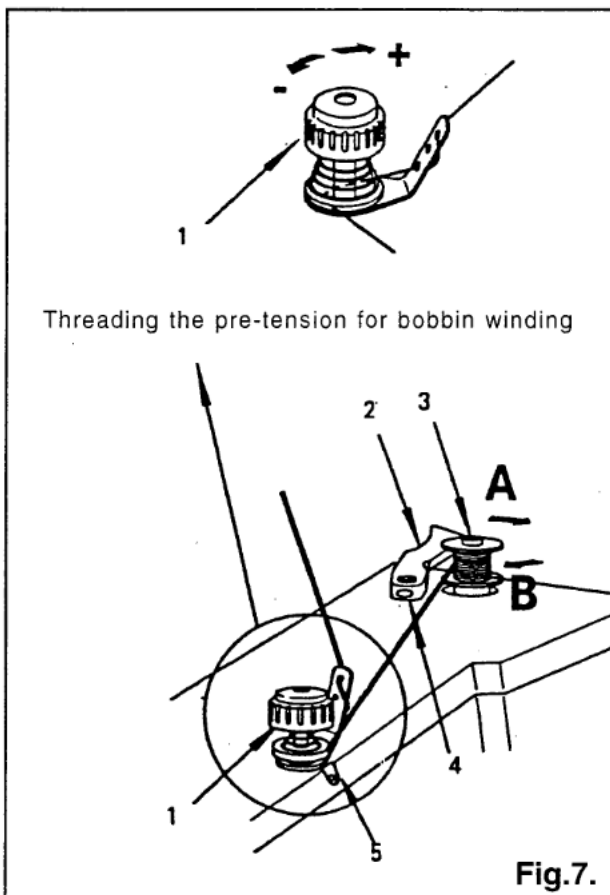

Fig.7.
2. Place bobbin on bobbin winder spindle (3), Fig.7, pushing it on as far as it will go.
Pre-tension (1) (see Fig.7).
3. Push latch (2) in the direction indicated by arrow (A), then start the machine (see Fig.7).
Bobbin winder spindle (3), rotate in the direction indicated by arrow (B) (see Fig.7).